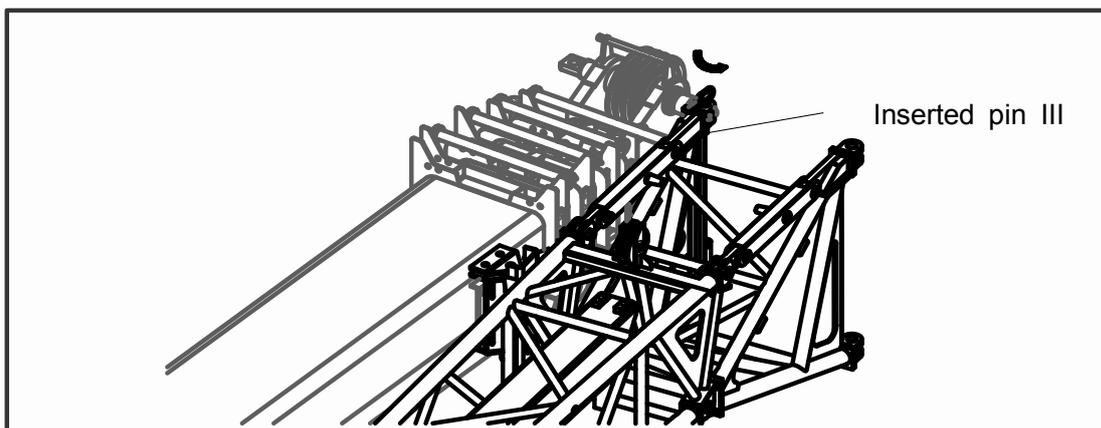

Fig.05-07
- h) Rotate the jib around inserted pin III in the same direction to the front of the main boom. See Fig.05-07;